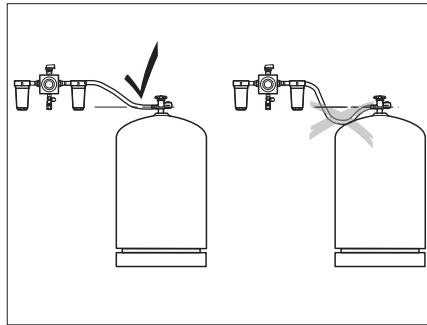

Fig. 231 Routing of the high-pressure hoses
- ▷ When routing the high-pressure hoses ensure that the hoses rise continuously (Fig. 231).